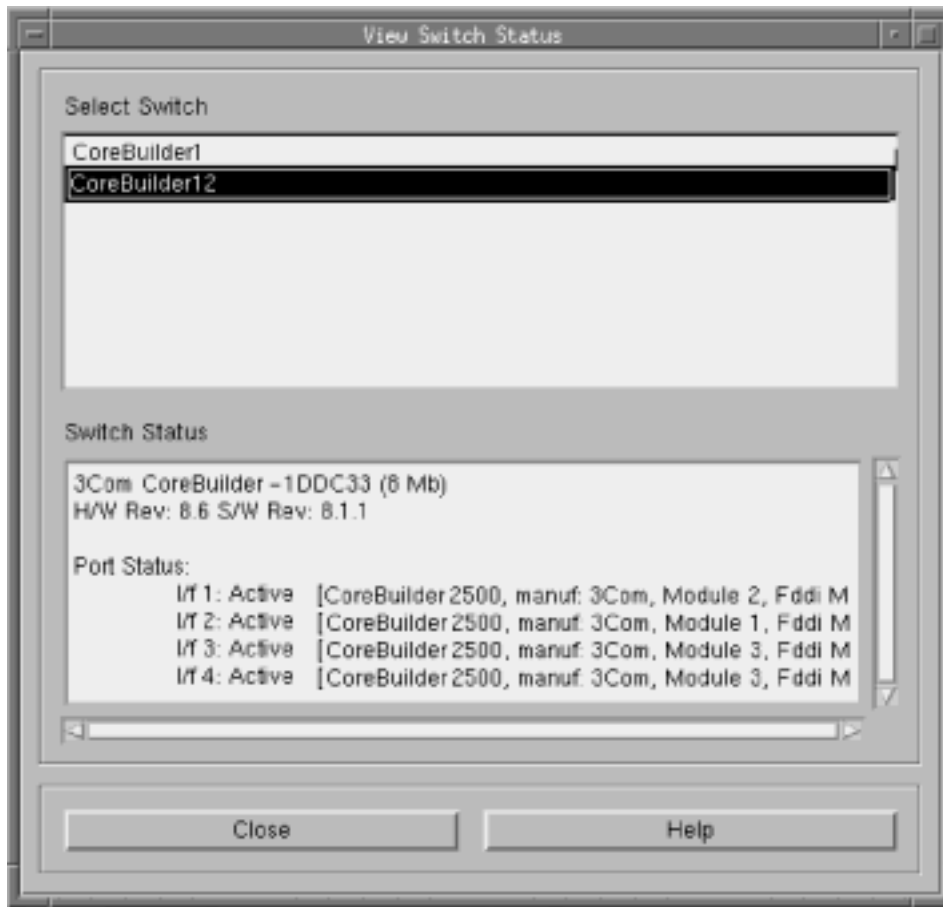

Figure 66. View Switch Status Dialog Box
1. In Nways Manager Remote Monitor's main window, select RAP Status from the Configure menu to open the View Switch Status dialog box. (Figure 66 on page 160).